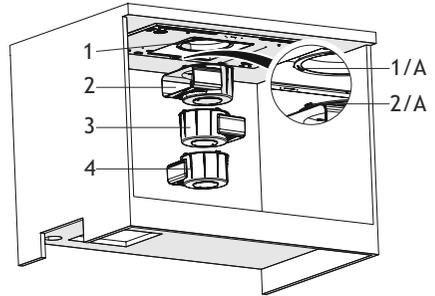

Fig. 18
3. ➔ ■ Attach the mounting tabs on the water container (Fig. 18-2/A) to the mounting slots under the container slot (Fig. 18 - 1/A) by pressing upwards (Fig. 18).